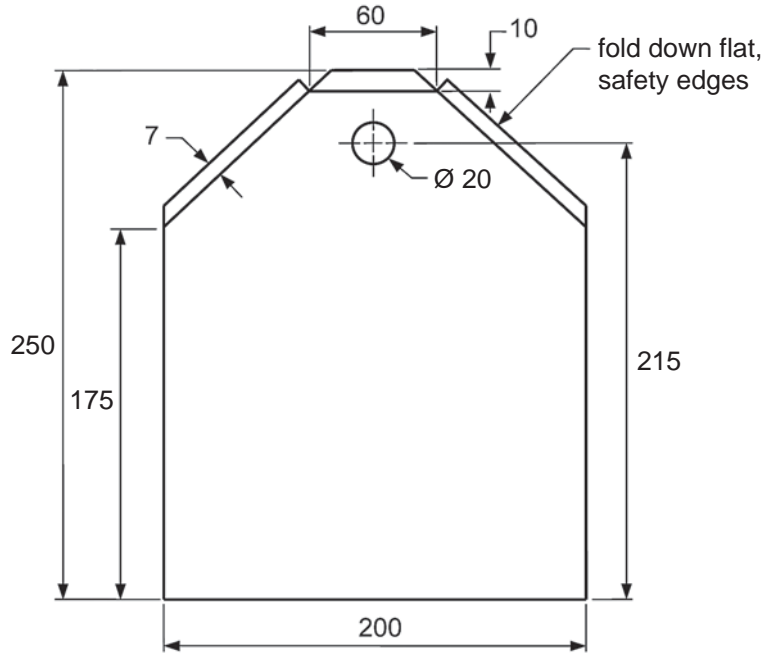

Figure 16
Figure 16 shows a detailed drawing of the end of the toolbox.
c. Name two tools that are required to mark out the end of the toolbox as shown in Figure 16.
d. What is the purpose of the safety edges shown in Figure 16?